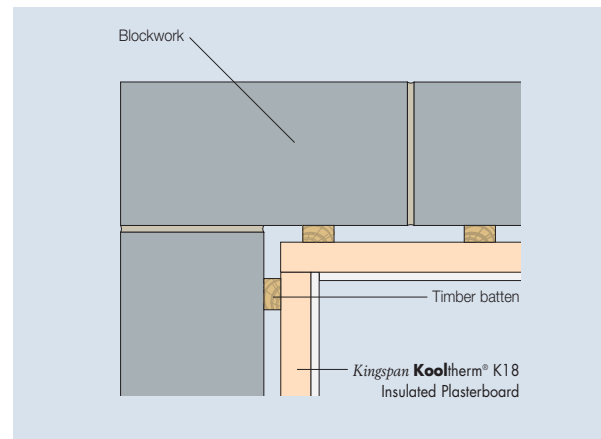

Figure 7 – Internal corner detail
- For internal and external corners, sheets should be cut and rebated to allow a plasterboard / plasterboard joint at the angle (see Figures 7 & 9).
- For internal and external corners, ensure sheets are lightly butted and air gaps minimised to reduce the risk of cold bridging (see Figures 7 & 9).